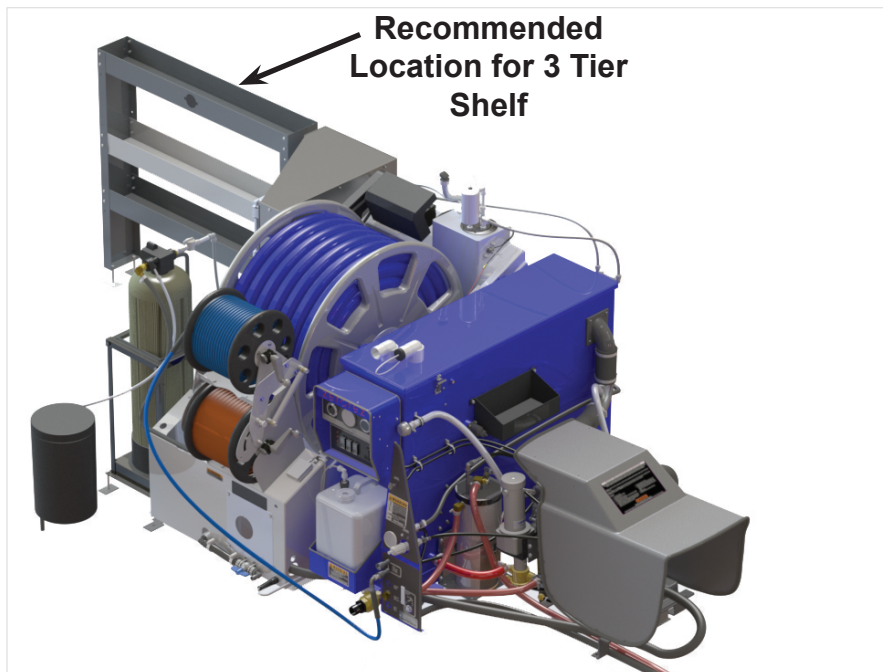
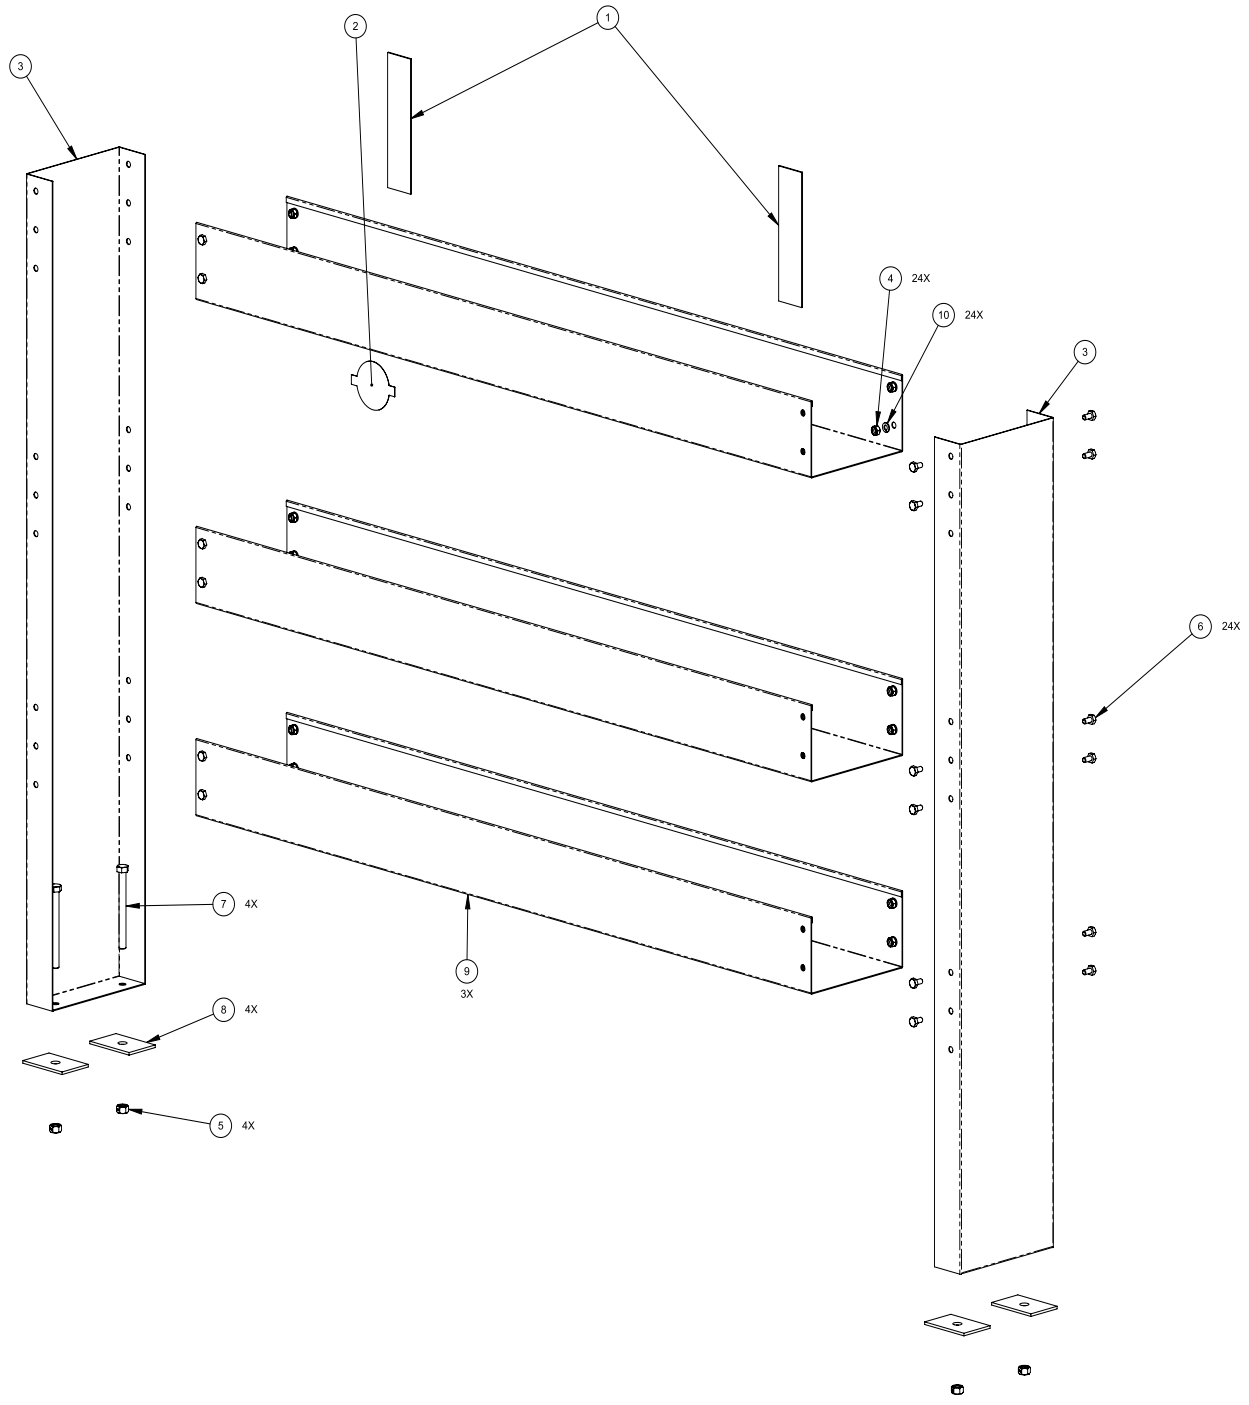

Figure 92. Recommended Location for Shelf
Figure 93. Assemble 3 Tier Stainless Steel
Prior to loading the stainless steel shelf into the van, assemble it as indicated in Figure 92 and Figure 93 using the fastening hardware included in the shipment (see Table 8).
1. Set aside items 5 and 8.
2. Dry fit the 3 Tier Stainless Steel Shelf in the rear of the van (see Figure 92).